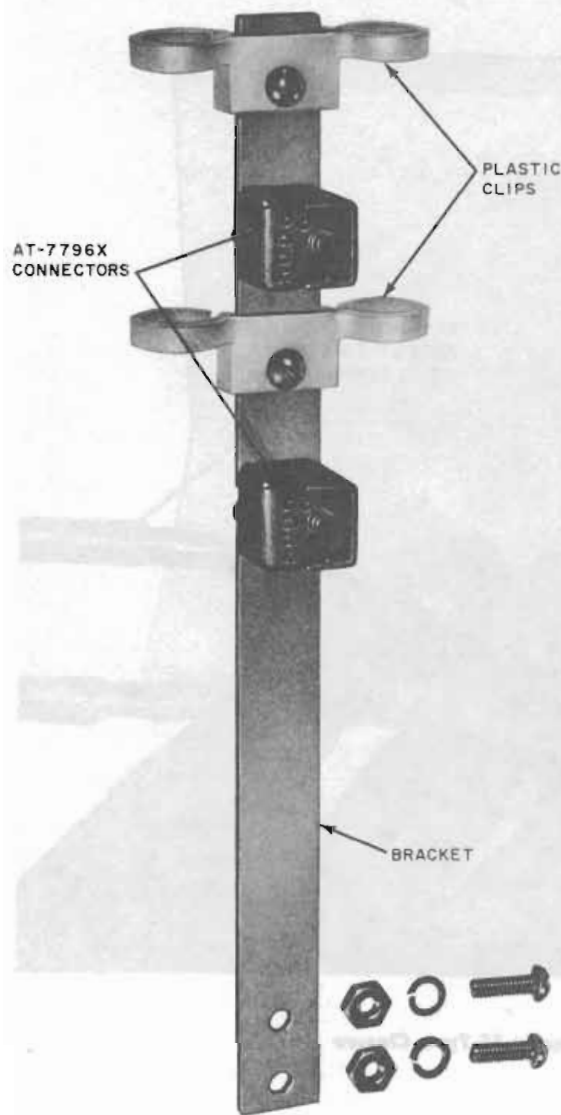

Fig. 52—Bracket Assembly
14.02 The bracket assembly (Fig. 52) used for terminating service wires in the LD-type closures must be ordered separately. It is equipped with two AT-7796X connectors and two plastic clips. Where terminal blocks (Part 6) are required, remove the plastic clips and top AT-7796X connector. Install the terminal block in the positions vacated by the plastic clips.